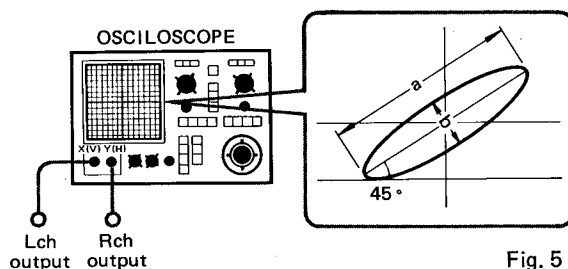

Fig. 5
- * When the maximum level point of R channel does not equal that of L channel, connect the oscilloscope as shown in Fig. 5 and proceed with azimuth adjustment so that L and R channels are in phase.